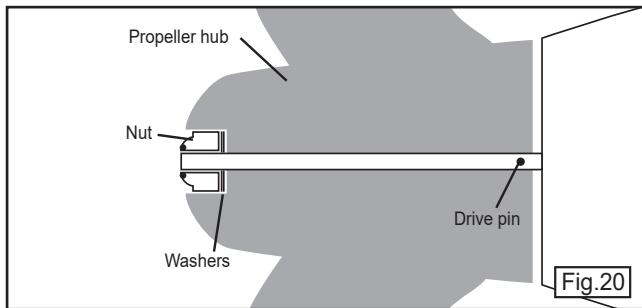

Fig.20
9. Replace the washer(s) and nut and tighten with the socket while holding the Propeller making sure it is securely fastened (See figure 20).